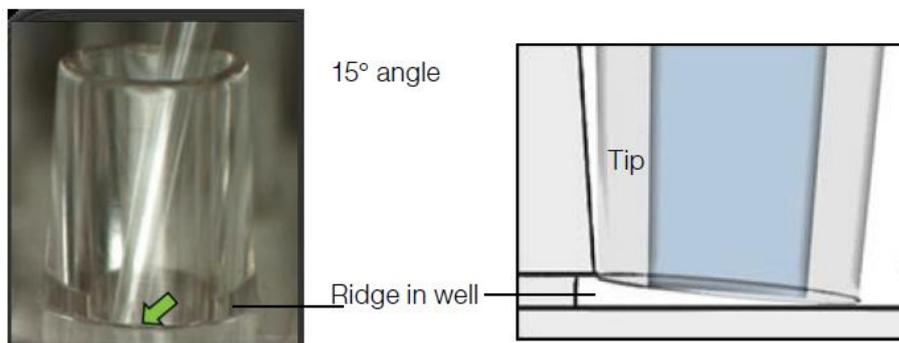

Figure 2. Pipetting sample to the wells of the DG8 cartridge.
- a. gently sliding the pipet tip down the side of the wall at a ~15° angle until it passes over the ridge near the bottom (**Figure 2**). Holding the angle, ground the pipet top against the bottom edge of the sample well while slowly dispensing a small portion of the sample; do not pipet directly onto the side (wall) of the well.